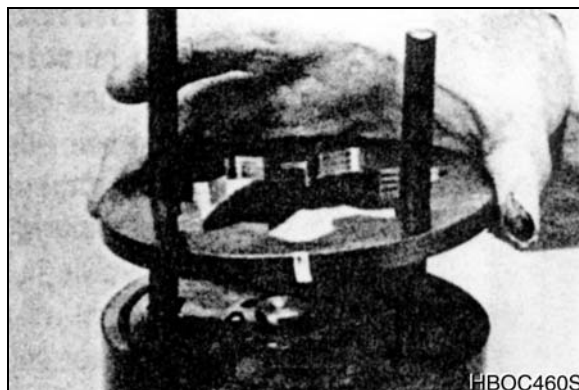

Figure 60
18. Assemble the commutator ring (16) over alignment studs onto the manifold. See Figure 60.